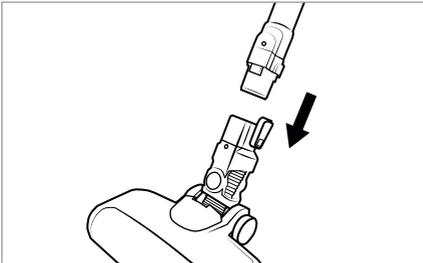

Fig. 2
- 2) Push the suction pipe 23 into the floor brush 21 until it audibly clicks into place (see Fig. 2).